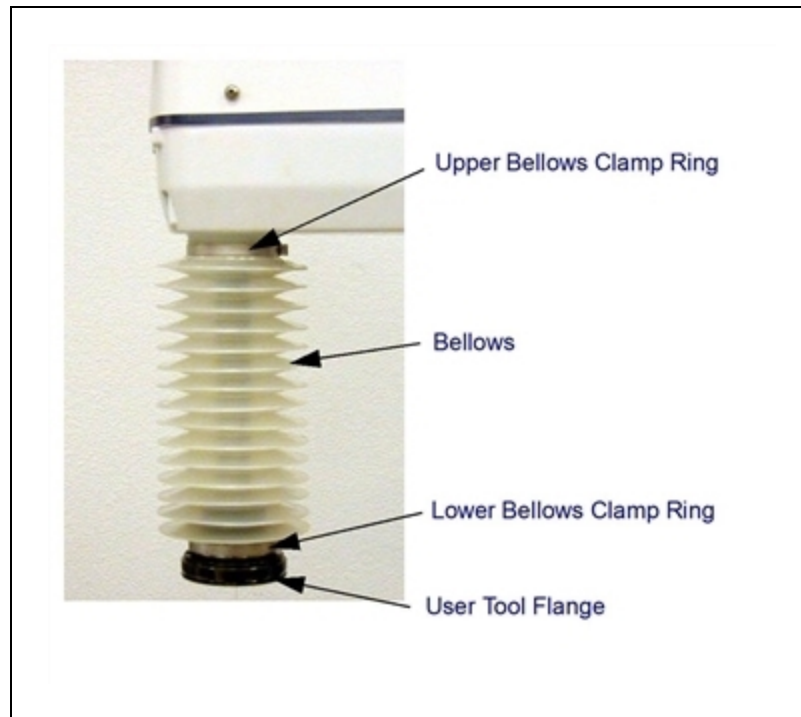

Figure 10-3. Cleanroom Bellows Replacement
1. Remove the lower bellows clamp ring from the bearing ring by loosening the screw on the clamp. See Figure 10-3.